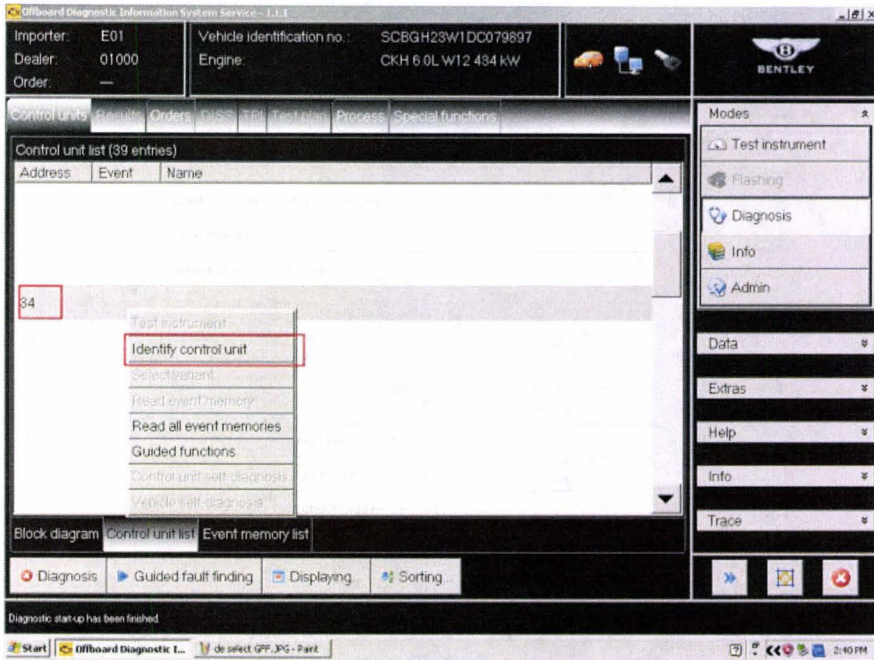

Figure 2
8. Within Control units – Select 34 (single touch) – Reveal drop down menu (extended touch and release), Select *Identify control unit* (see Figure 2)
1. Within Control units – Select 34 (single touch) – Reveal drop down menu (extended touch and release), Select *Identify control unit* (see Figure 2)